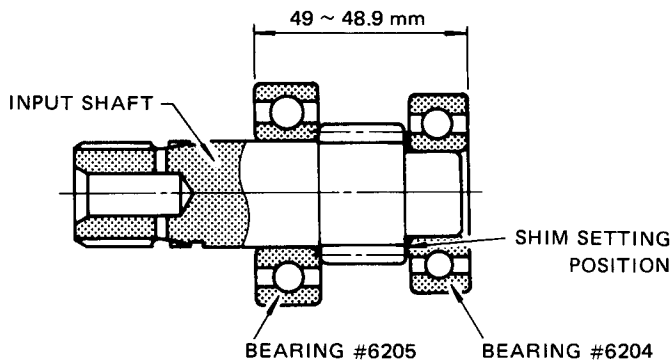

Fig. 12-3
- Pressure-fit the bearings into the input shaft so that the bearing (#6205) is set in the spline side and the bearing (#6204) in the edge face side. Then, insert the shim between the bearing (#6205) and the gear so that the clearance between the two bearings after they have been pressure-fitted is from 49 mm to 48.9 mm. Two types of shim; 0.3 mm thick and 0.1 mm thick are available. (See Fig. 12-3.)